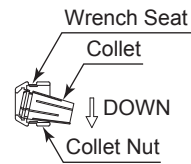

Fig. 7
- (2) The collet and collet nut are secured by a groove in the collet and a flange in the collet nut. To remove the collet hold the collet nut in one hand and push diagonally down on the collet. The collet should be released (Fig. 7).